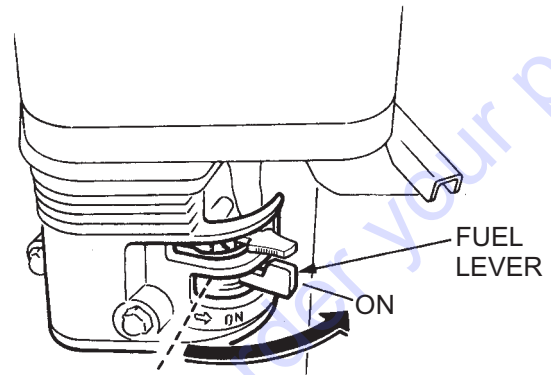

Figure 12. Engine Fuel Valve Lever (ON)
1. Place the engine *fuel valve lever* (Figure 12) to the "ON" position.